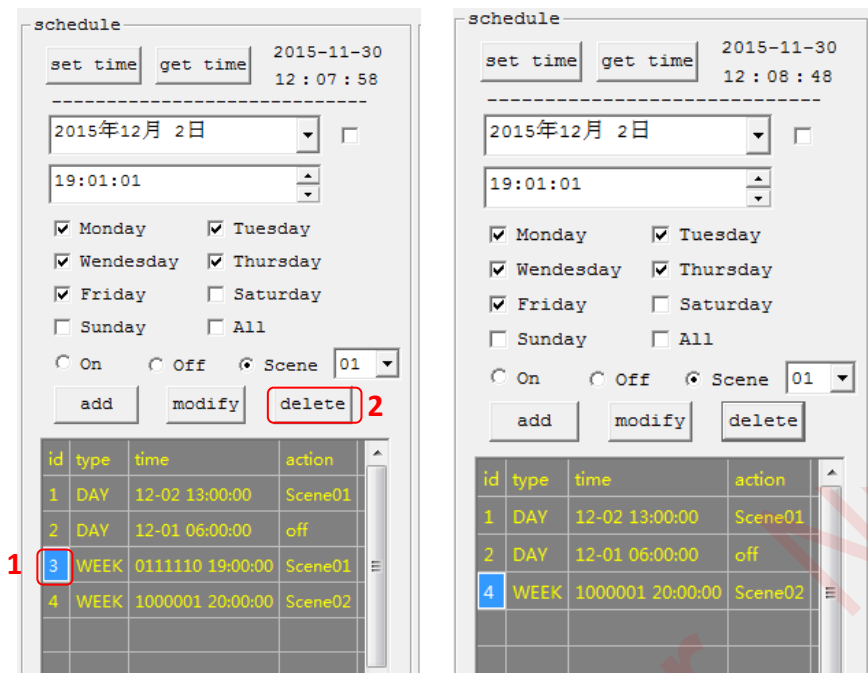

Figure 36 Delete alarm clock 3
- Click the id number (as shown in mark 1 of Figure 36) of the alarm clock to be deleted in the list window, and click the “delete” button (as shown in mark 2 of Figure 36).